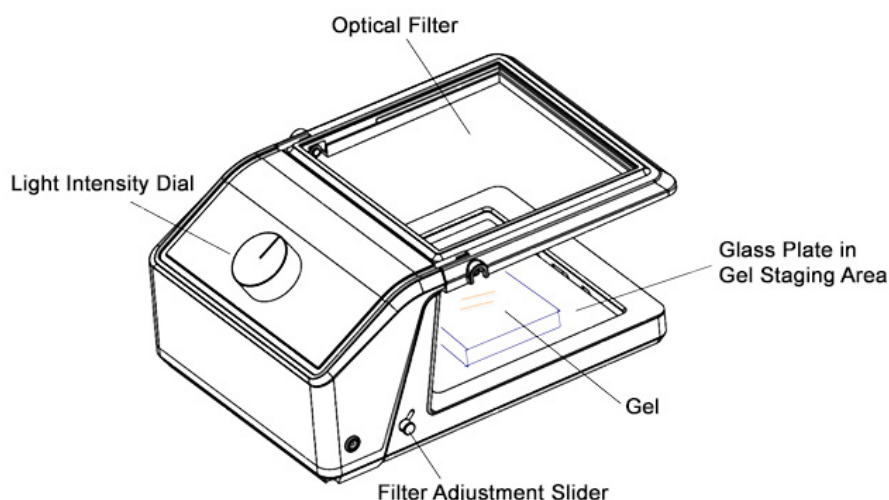

Figure 3. Diagram of Gel-Bright™ Laser Diode Gel Illuminator.
3. Turn on the Gel-Bright™ device and turn the Light Intensity Dial clockwise (Figure 3) until the desired light intensity is attained.
- The gel can be photographed with a regular camera while the filter is in the lowered position (see Figure 1A). To adjust the position of the filter, slide the Filter Adjustment Slider (Figure 3) up at a 45° angle towards the filter, and then lower the filter. For best results, we recommend imaging the gel with the included Gel-Bright™ Imaging Hood, which provides a dark enclosure over the filter for optimal contrast. The imaging hood should be placed over the filter while it's in the lowered position (Figure 2). The gel can be imaged through the small opening at the top of the imaging hood using a camera or smart phone. Align the camera lens flat against the round opening to take a photograph.